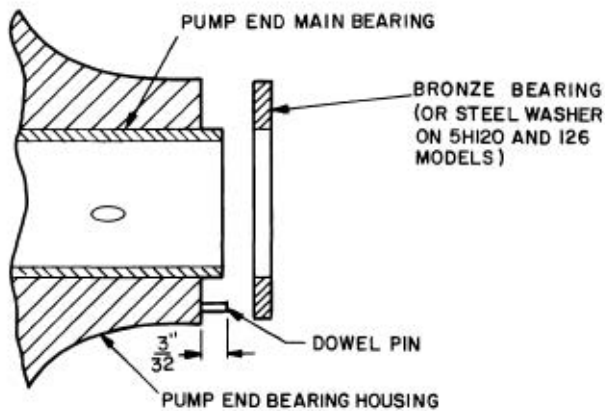

Fig. 52 — Pump-End Main Bearing Position
Pump-End Main Bearing (Fig. 52)
4. Place bearing washer on bearing with notch in washer properly positioned around dowel pin (Fig. 52).